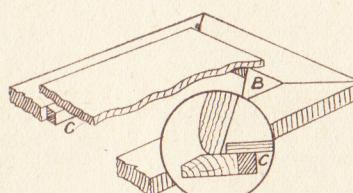

Fig. 1—Floor construction
The four pieces are glued together, and the inside angles may be further strengthened by adding four glued angle blocks as seen at (B) in Fig. 1. On this open
frame will be glued the $\frac{1}{8}$ in. thick floor measuring $6\frac{1}{2}$ ins. by $2\frac{1}{2}$ ins. This is seen in Fig. 1 as a sectional diagram and shows how the piece must have an equal margin each side and each end of the mitred base strips so as to allow the sides and ends of the box, when made up, to stand evenly all round.
The enlarged circled diagram in Fig. 1 shows, by section, how one end of the box will appear when it is glued to the base and in relation to the floor piece. Small square glued blocks about $\frac{1}{16}$ in. in section and cut from spare wood may be added beneath the floor as seen at (C) in Fig. 1.